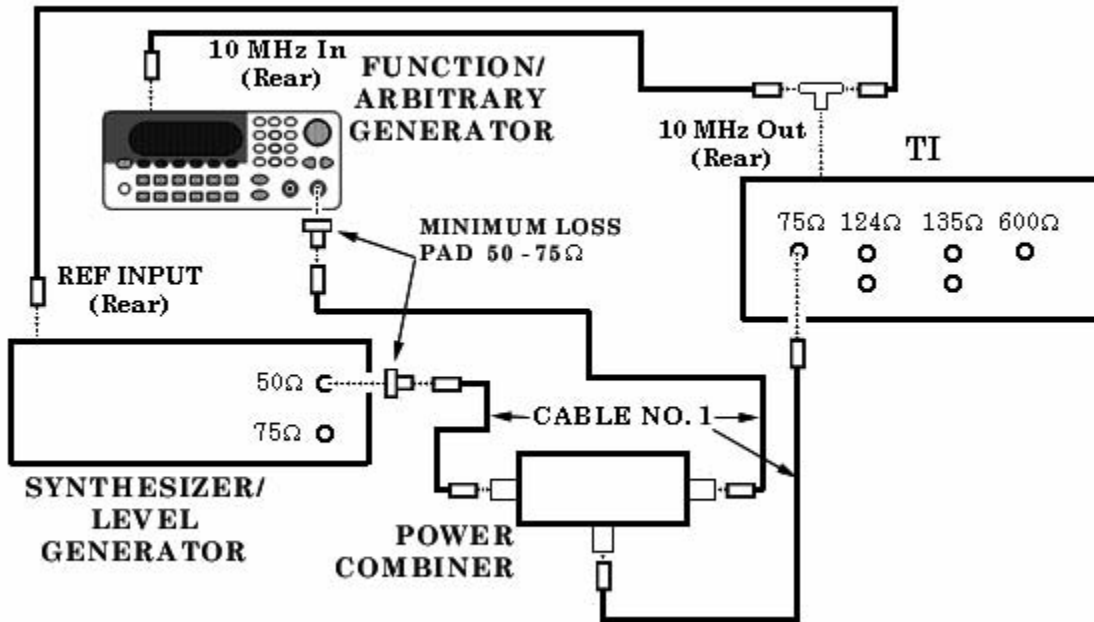

Figure 5. Wideband power accuracy setup.
(1) Connect equipment as shown in figure 5.
(2) Press **TI ENTRY [RECALL], [0], MEASUREMENT MODE [WIDE BAND], MEASUREMENT/ENTRY [AVE]**, and **TERMINATION [75 Ω]** pushbuttons.
(3) Set function/arbitrary generator for 20 kHz and amplitude for +8.7 dBm.
(4) Set synthesizer/level generator for 30 kHz and amplitude for +8.7 dBm.
(5) Press **TI ENTRY [RDNG OFFSET]** and **MEASUREMENT/ENTRY [OFFSET]** pushbuttons.
(6) Set synthesizer/level generator to 10 MHz. TI will indicate between ± 0.8 dBmO.
(7) Set function/arbitrary generator for 200 Hz and synthesizer/level generator for 1 kHz. Press **TI [RDNG OFFSET]** pushbutton.
(8) Set synthesizer/level generator to 32 MHz. TI will indicate between ± 1.8 dBmO.
- (1) Connect equipment as shown in figure 5.
- (2) Set TI ENTRY [RECALL], [0].
- (3) Set function/arbitrary generator frequency for 11004 Hz and amplitude for -56 dBm.
- (4) Set synthesizer/level generator frequency for 11104 Hz and set amplitude level to -76 dBm.
- (5) Press TI MEASUREMENT ENTRY RANGE [100 dB], and ENTRY, [FREQ], [1], [0], and [kHz +dB] pushbuttons.
- (6) Press TI MEASUREMENT MODE (blue) and [0 JITTER] pushbuttons. TI phase jitter will be from 10 to 13 degrees p-p.
- (7) Disconnect function/arbitrary generator and combiner power from setup.
- (8) Connect synthesizer/level generator 75 Ω OUTPUT to TERMINATION 75 Ω input of TI.
- (9) Press TI ENTRY [RECALL], [0], and TERMINATION [75 Ω] pushbuttons.